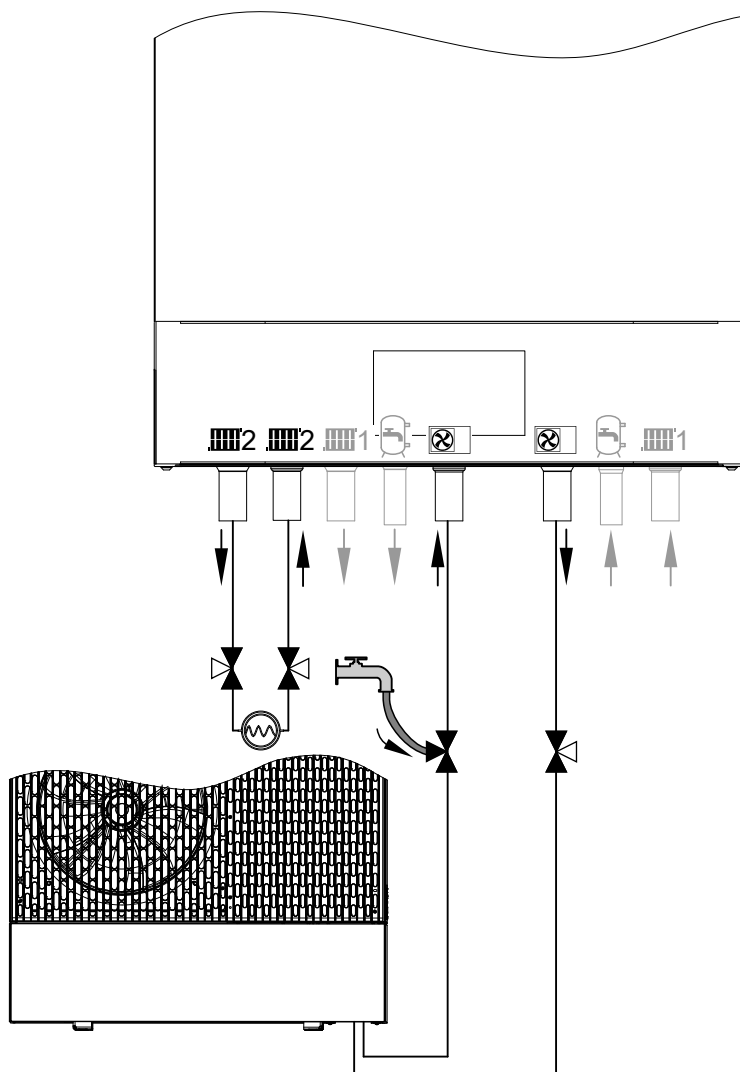

Fig. 66
Open both 3-way ball valves to and from heating/cooling circuit 2: See Fig. 66.
3. Open the 3-way ball valve of the outdoor unit flow (indoor unit heating water inlet) as shown in Fig. 66: **Open in all directions**
4. Open the 3-way ball valve to the outdoor unit return (indoor unit heating water outlet): See Fig. 66.